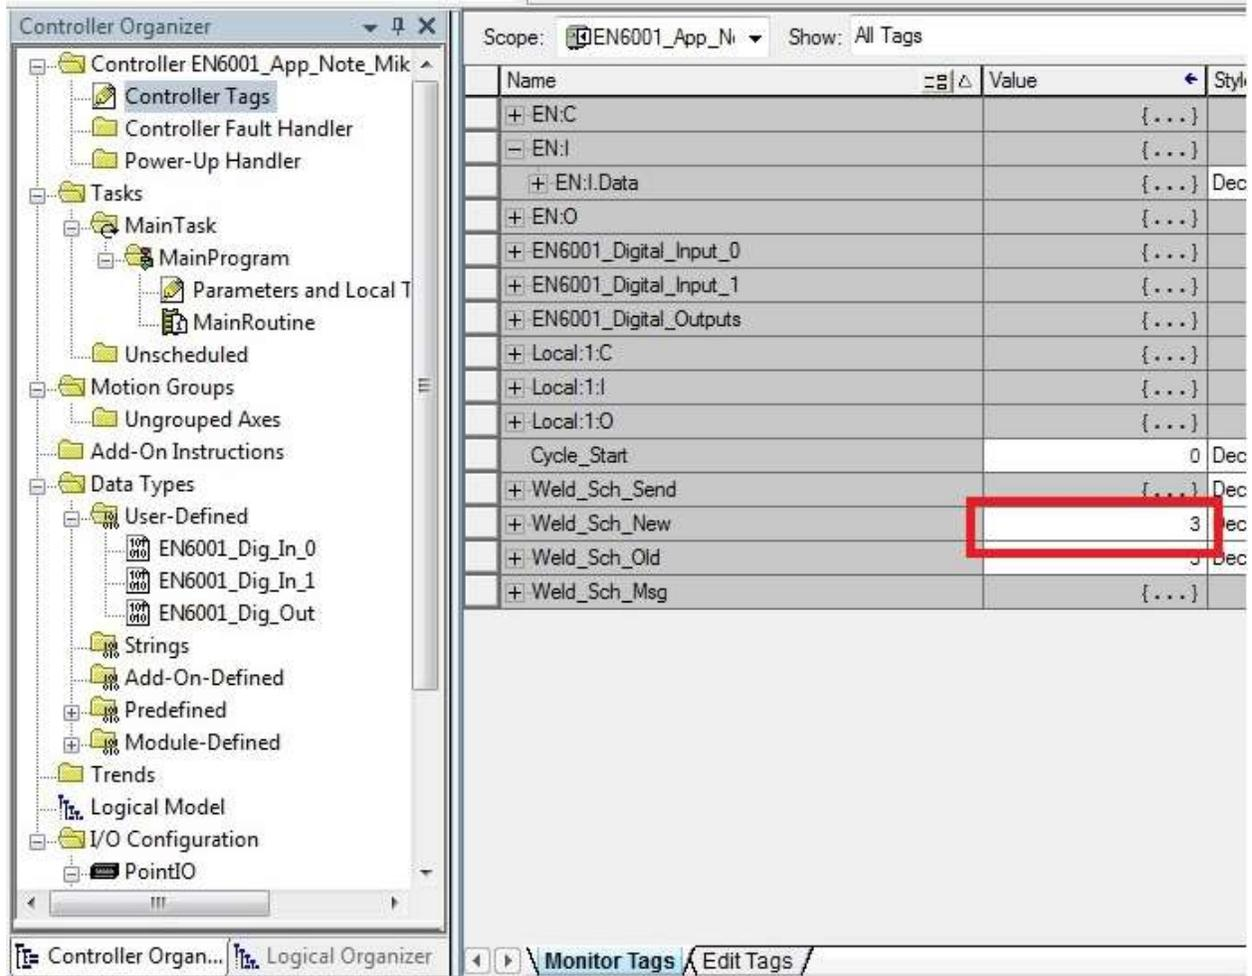

Figure 17 Controller Tags
3.1.3.1. This program can simulate changing the weld schedule on an HMI by going on line and changing the value of the Weld_Sch_New tag in the Monitor tab of the Controller tags as shown in Figure 17.